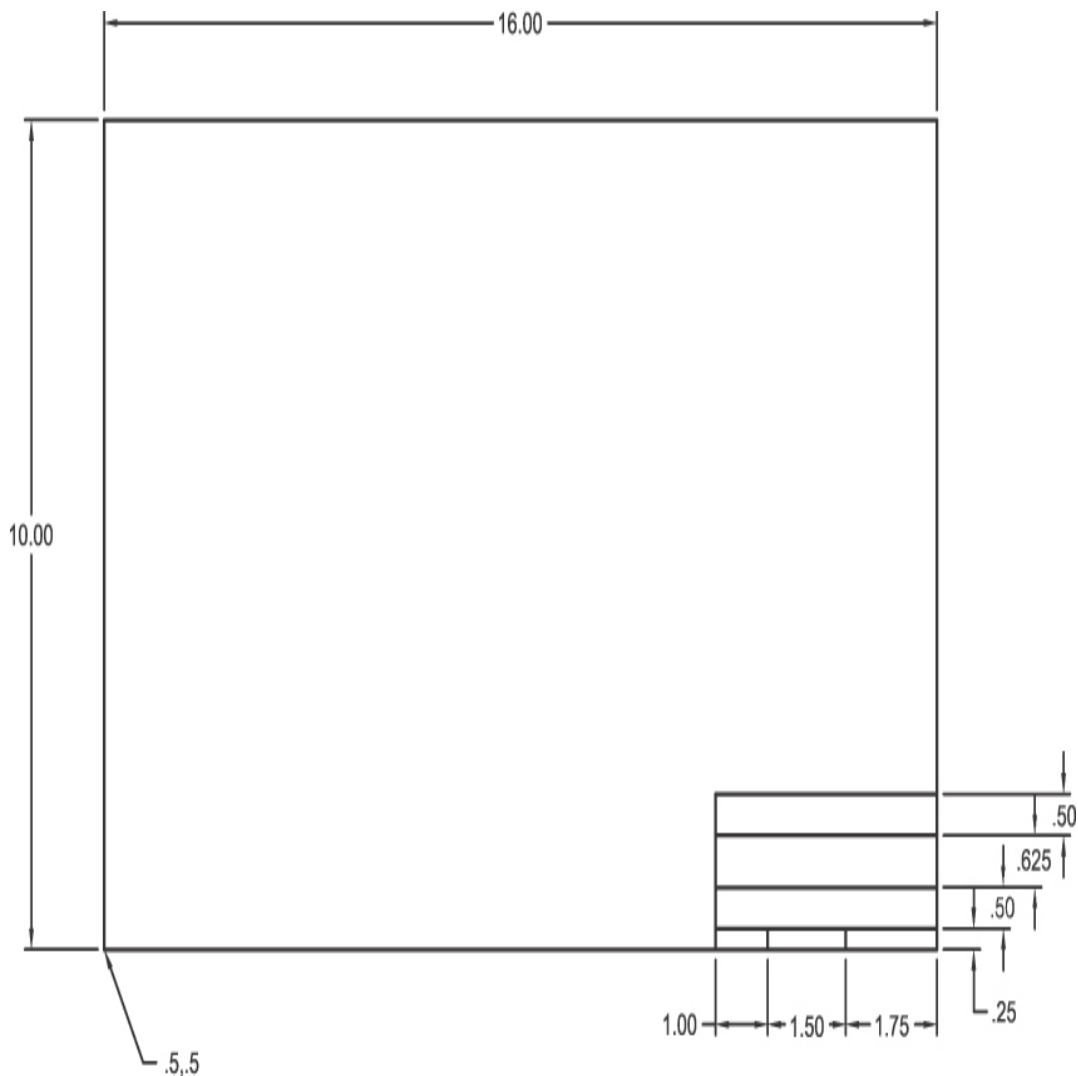

Figure 4-37
3. Draw the border as shown in Figure 4-37. **Do not** draw dimensions.